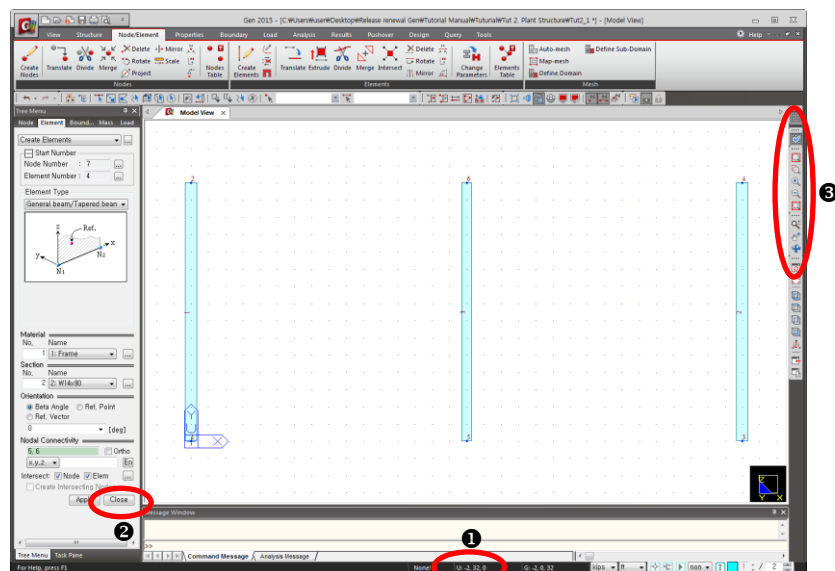

Figure 2.4 Generation of Column Elements
9. Generate elements **1 & 2** (exterior columns) by linking the positions (**0, 0, 0**) and (**0, 30, 0**) and positions (**64, 0, 0**) and (**64, 30, 0**) relative to the UCS coordinates noted at the bottom of the screen (Fig.2.4–**1**) with the mouse cursor.
While generating elements, if the window area is too small or the position is unsuitable, the user may adjust the window by using Zoom or Pan (Fig.2.4-**5**).
1. Click  as shown in Fig.2.4-☞.